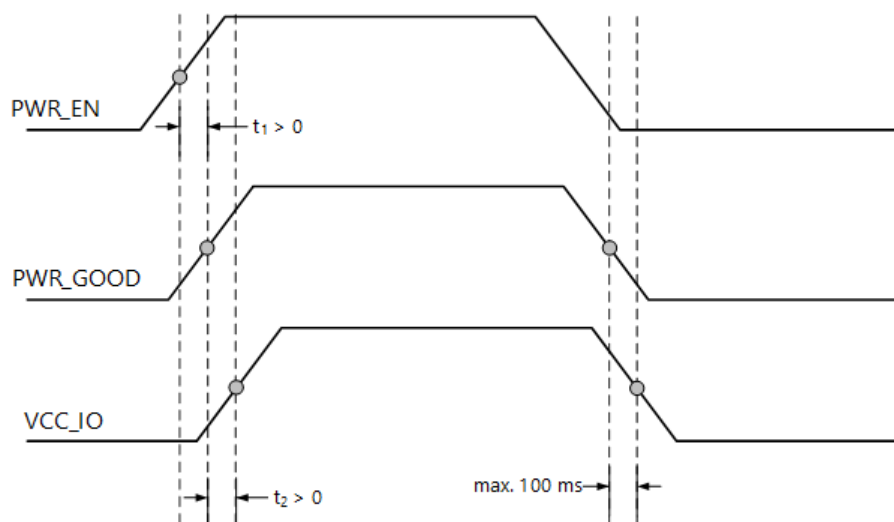

Figure 12: Power-Up Sequence - VCC_IO in Relation with PWR_GOOD and PWR_EN Signals
Figure 12 illustrates the requirements of the VCC_IO power sequence. Do not power the VCC_IO pins when PWR_GOOD and PWR_EN signals are not active. If the module is not powered, make sure that the VCC_IO voltages are disabled, for example, by using a switch that uses PWR_GOOD as enable signal on the base board.
- Follow the power sequence diagram shown in Figure 12. This ensures that the I/Os are tri-stated at power-on and power-off.